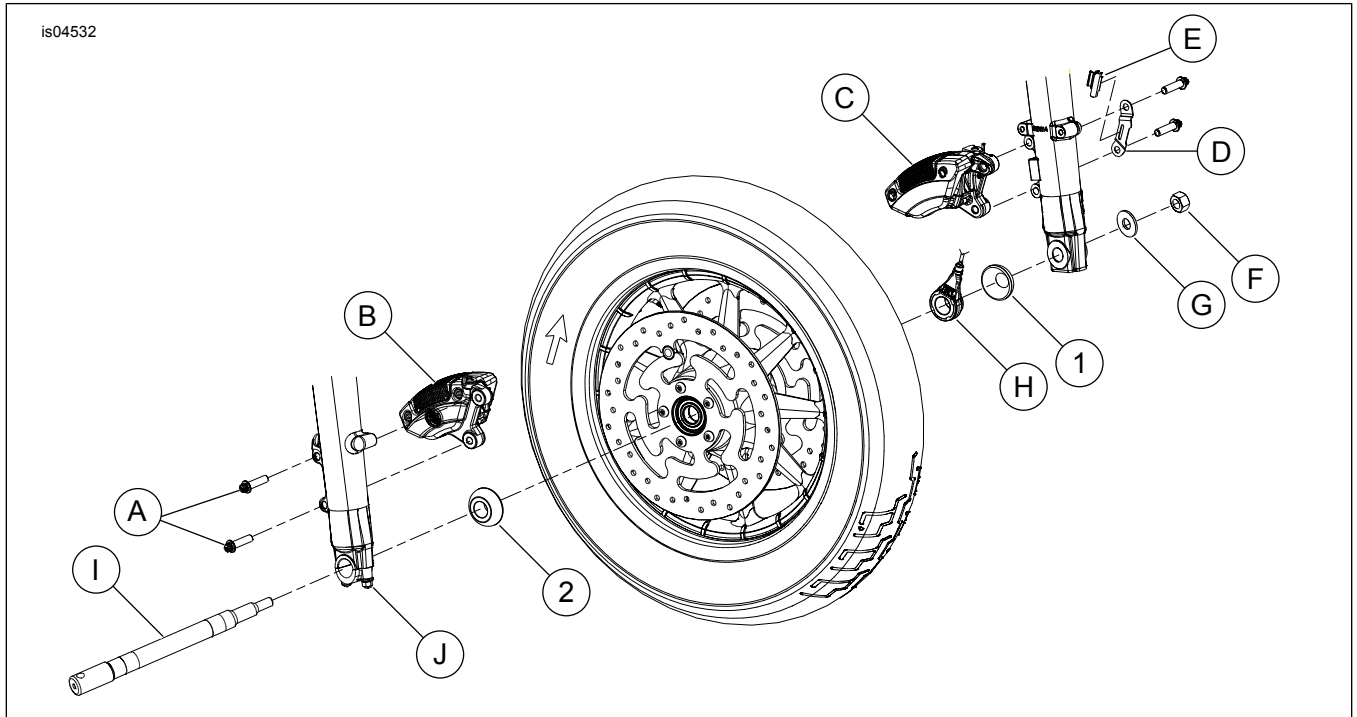

Figure 4. Service Parts: Chrome Front Wheel Spacer Kit
See Figure 4 and Table 1
4. Remove both upper and lower mounting bolts (2) from lugs of left front fork leg to release brake caliper assembly, sensor wire bracket (D) and clip (E) (see Figure 4).
7. See Figure 4 and Table 1. Insert screwdriver or steel rod through hole in axle on right side of vehicle. While holding axle stationary, remove axle nut (F) and flat washer (G) on left side.
8. Loosen two axle holder nuts (J) at bottom of right side fork leg.